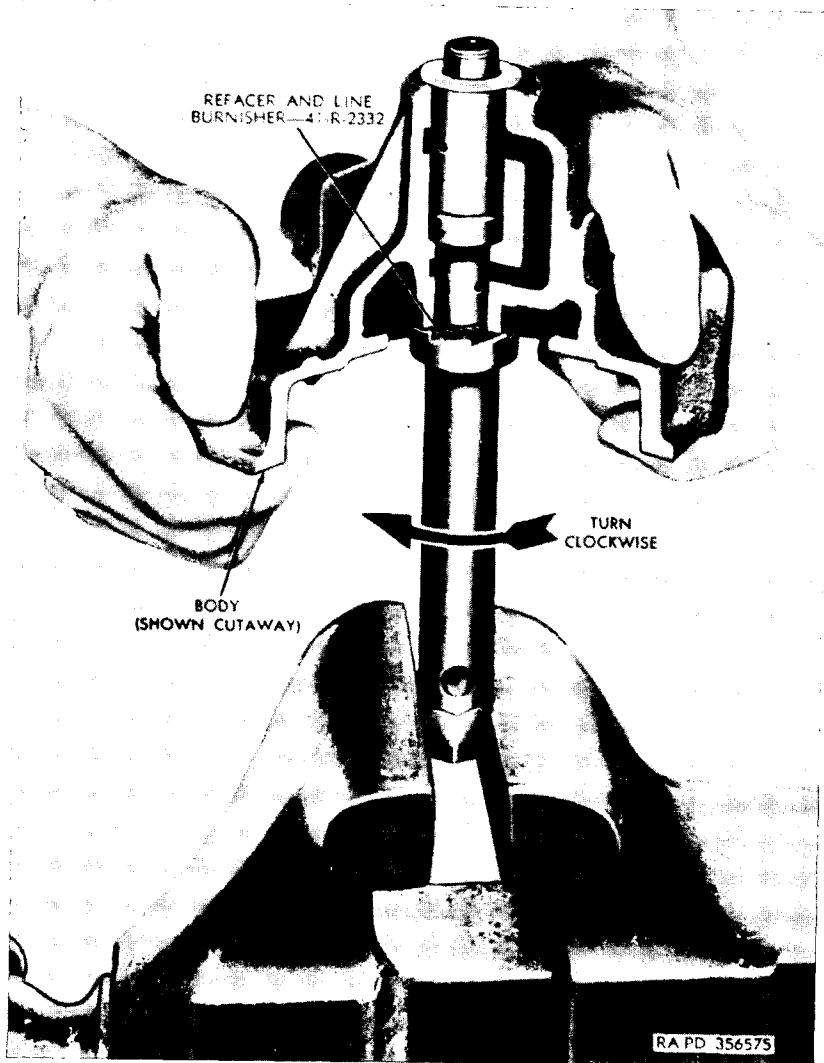

Figure 83. Burnishing bearings and refacing seal seat.
- (3) Using a No. 14 drill, drill the front bearing for the bearing pin. The drilled hole in the body can be used as a guide. Drive a new pin into the bearing to lock it in place.
- (4) Burnish the front bearing to 0.595 to 0.596 in. diameter, and the rear bearing to 0.670 to 0.671 in. with refacer and line burnisher 41-R-2332 (fig. 83). Clamp the refacer in a vise and install the body over the tool, impeller end down. Turn the body down on the tool slowly in a clockwise direction, until the refacing cutter of the tool contacts the body. Continue turning the body on the tool until a smooth, even cut has been taken on the seat. Continue turning the body